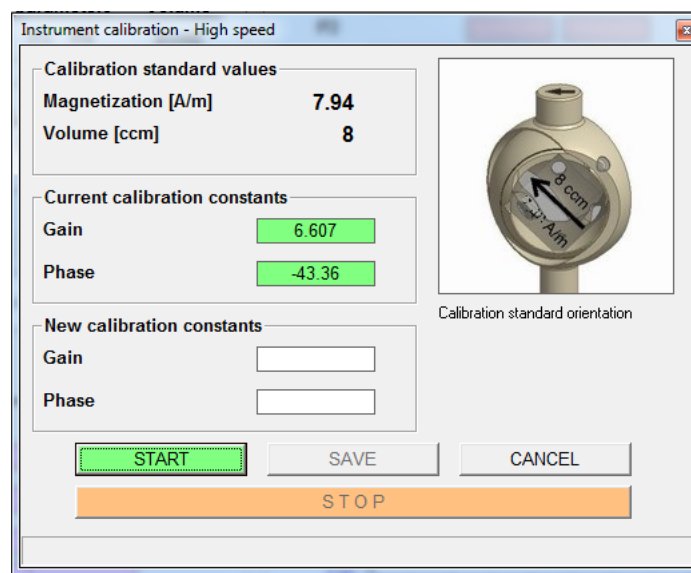

Figure 4: Calibration dialogue box.
3. Open the Calibration dialog box (*Figure 4*) by clicking **Execute > Calibration**. The spinner will begin automatically. The displayed **Phase** and **Gain** should be the “current” values. **Gain** should be within $\pm 15\%$ from the nominal value for the corresponding speed; **Phase** should be $\pm 20^\circ$ from nominal. If so, click **Save**. Otherwise, redo the calibration.